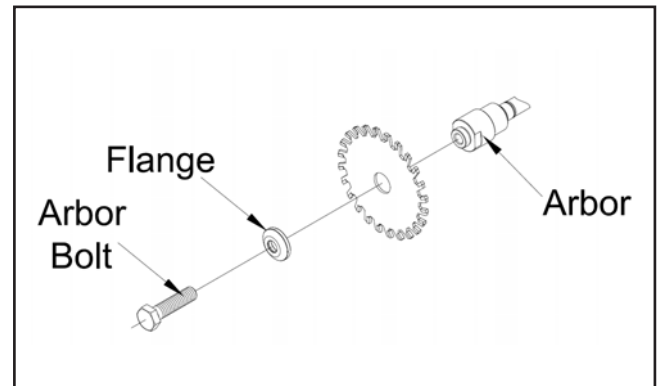

Figure 95. Scoring blade order of assembly.
- Thread arbor hex bolt on clockwise and fully tighten it to secure the assembly (see **Figure 95** for order of assembly).